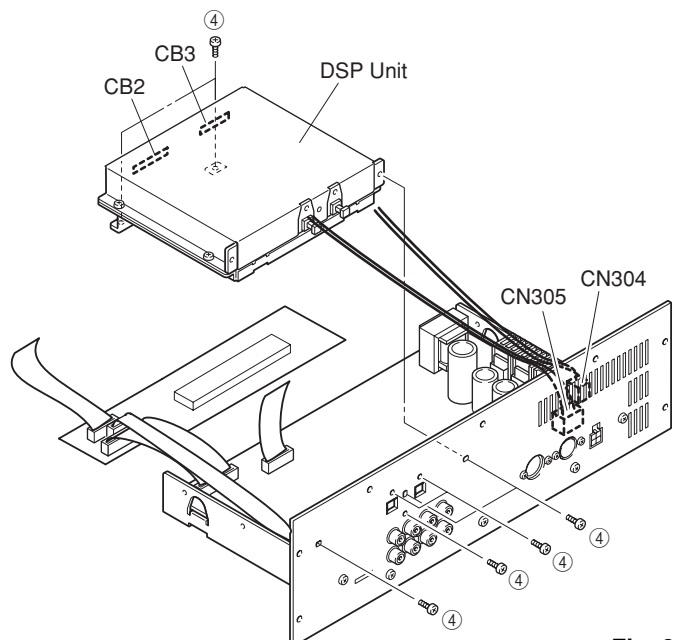

Fig. 3
- c. Remove the connectors CN304 and CN305. (Fig. 3)
- a. Remove the connectors CB2 and CB3. (Fig. 3)
- b. Remove 8 screws (④). The DSP Unit can then be removed. (Fig. 3)